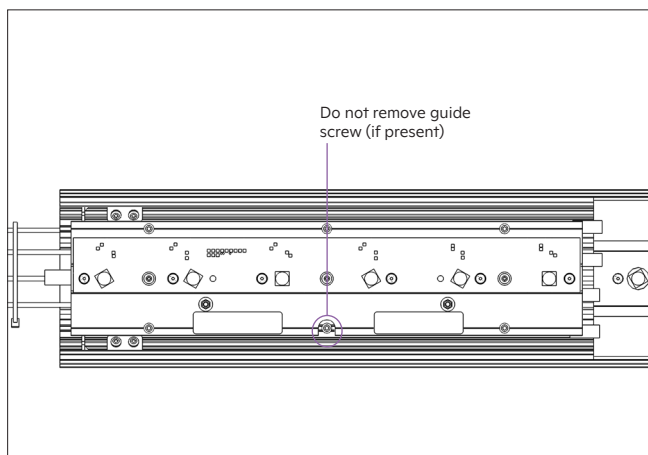

fig. 14
- a. Unscrew the light engine's 5 T10 screws. Do not remove guide screw (see fig. 14).